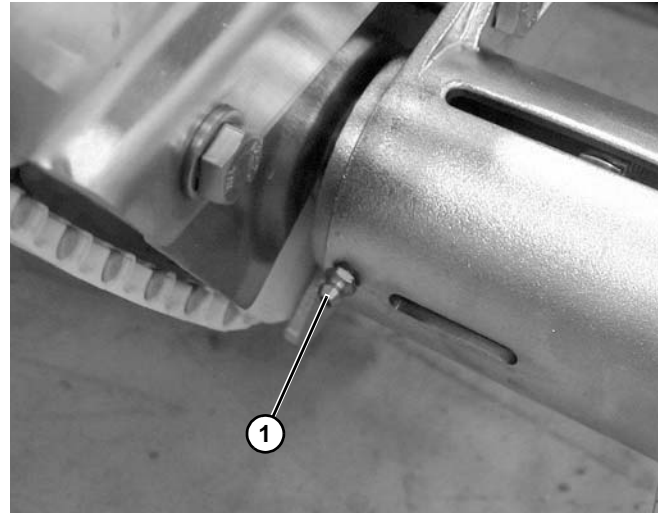

Figure 42
1. Add grease to the bearing using the zerk fitting (Figure 42, item 1) on the exterior of the motor mount.